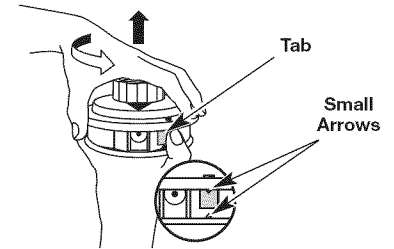

Fig. 16
1. Align the small arrows on the spool (Fig. 16).
2. Press the tab inward and twist the spool cover counterclockwise (Fig. 16).